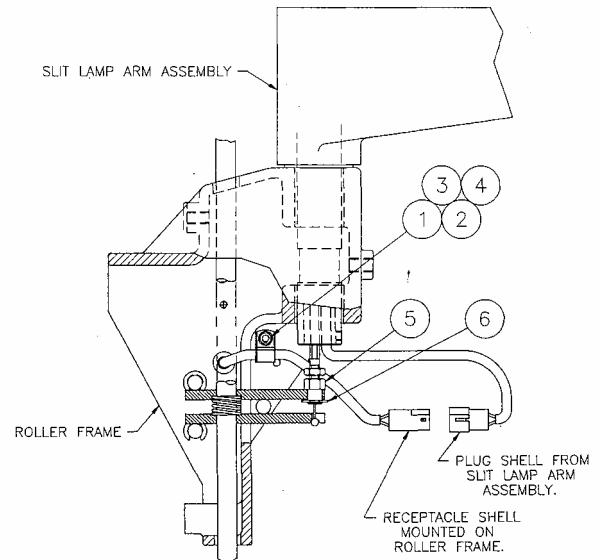

FIGURE 3
9. **(WITHOUT CHAIR CONTROL)** Find opening in slit lamp arm in lower arm closest to the roller frame assembly. Pull out cable. Locate two pin shells located up in arm, gently pull down on shell plugs while pushing downward on cord loop until plugs clear slit lamp arm {see figure 3}. Disconnect plug.